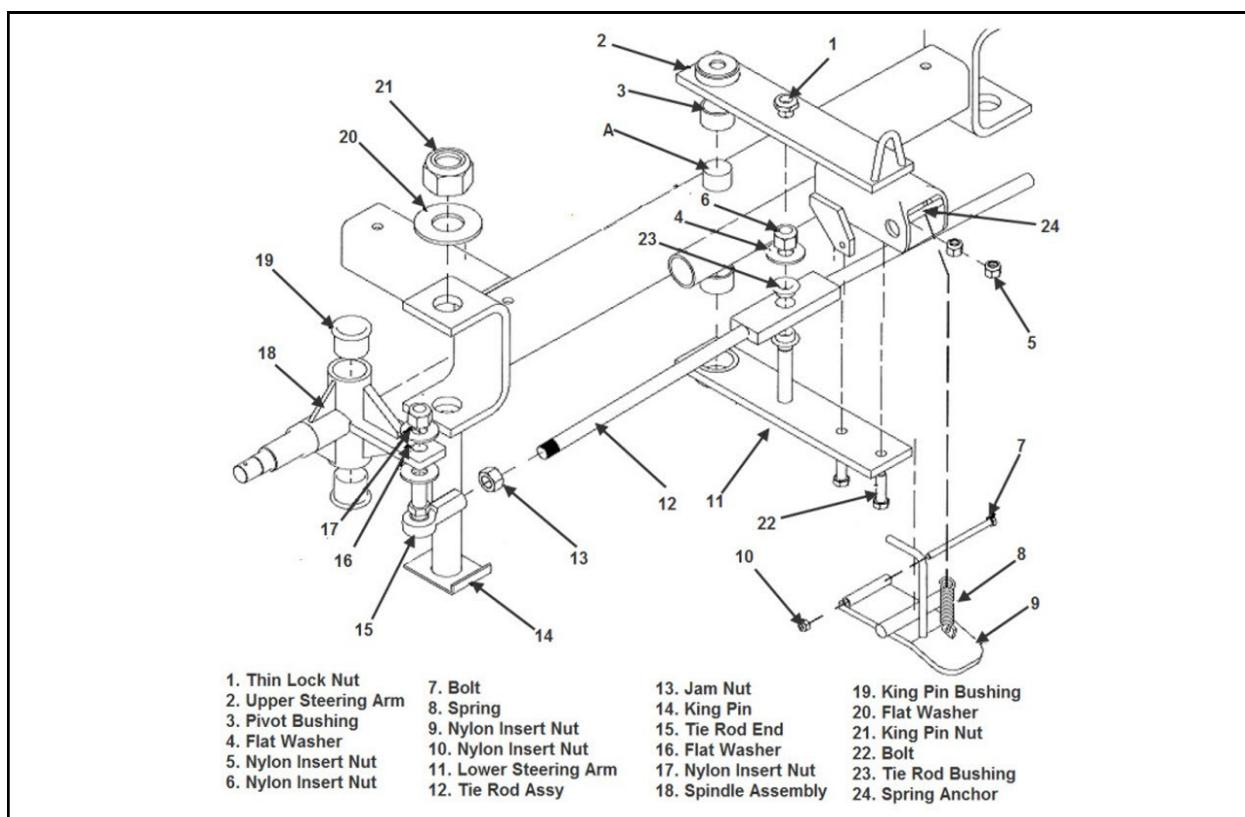

Figure 4-5 Exploded View of Undercarriage
(The remaining steps are illustrated in Figure 4-5).
To remove the spindle assembly, follow the maintenance steps for the front hub assembly before beginning the next steps. See Figure 4-5.
Refer to Figure 4-5 for the removal of the tie rod. Before beginning this process make sure that you have followed the steps for the steering arm assembly. **Note presence and location of bushings (23) when removing tie rod assembly from steering arm assembly.**